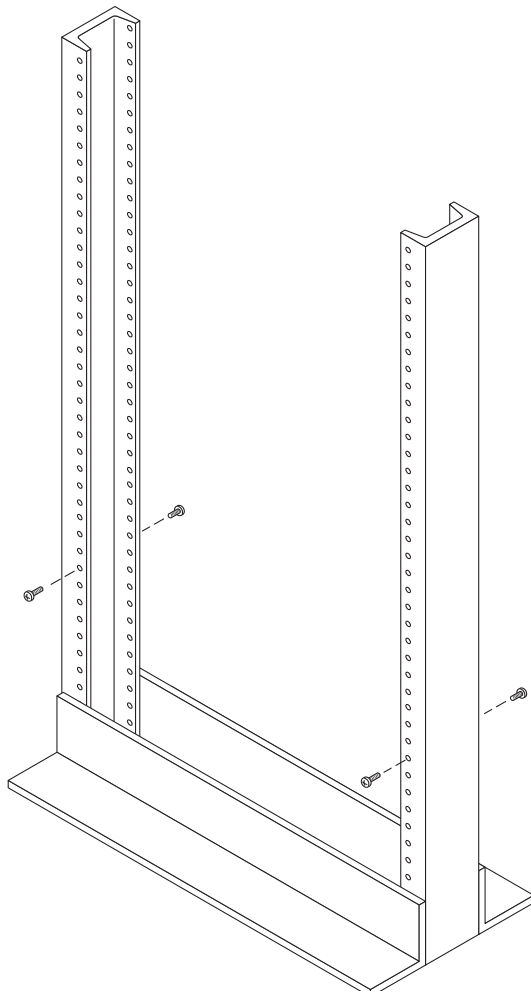

FIGURE 2 Inserting Screws in the Front and Back Mounting Holes of the Telco 2-Post Rack
- 1. Insert four 12-24 screws (two in each post) in the front and back mounting holes of the left and right posts (FIGURE 2). Do not tighten at this time.**